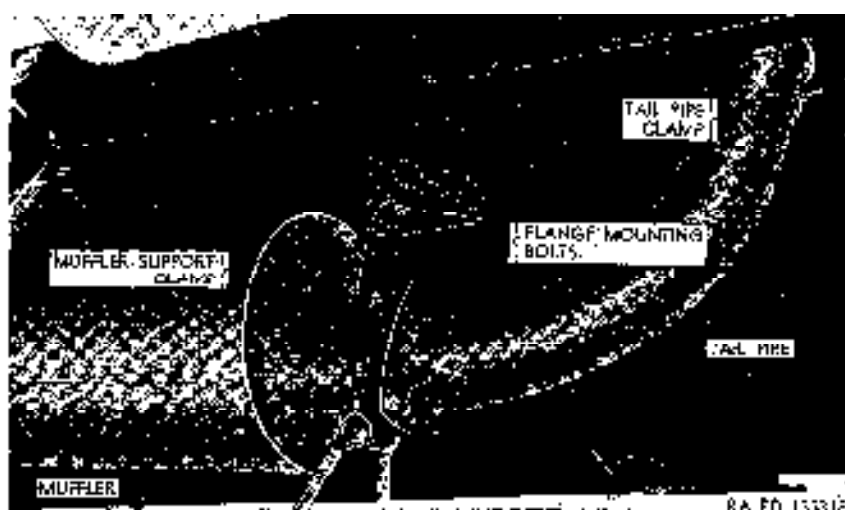

Figure 161. Muffler gapping and tail pipe mounting.
- (2) Remove three nuts and bolts securing flange at rear of muffler (fig. 161) to flange at front of tail pipe.
- (3) Remove nut and bolt from bottom of muffler support clamp (fig. 161), spread clamp, and remove muffler. Remove and discard exhaust-pipe-to-muffler gasket and muffler-to-tail-pipe-flange gasket.
- (2) Position muffler support clamp (fig. 161) on rear of muffler; install nut and bolt at bottom of clamp, and tighten.
- (3) Place new gasket on flange on front of tail pipe (fig. 161), position flange and gasket against muffler rear flange, install three nuts and bolts, and tighten.
(fig. 161)